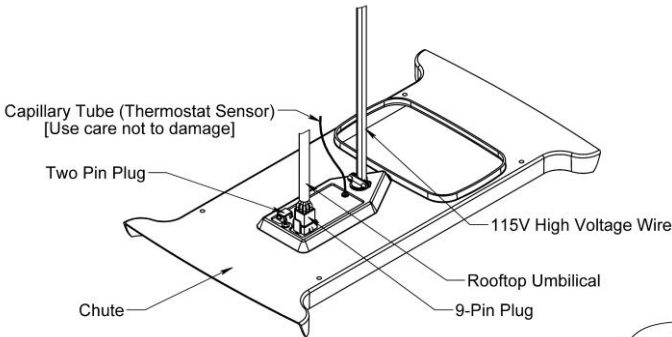

FIGURE 7
- C. Raise the ceiling assembly chute and insert the supply wiring through the cable clamp and into the wiring box so that 4-6" of supply conductor is inside the box. Secure the cable clamp over the supply wire sheath so that no movement is possible (See Figure 7).
- F. Plug the heat pump electrical conduit into the 9-position receptacle as shown in Figure 7.
installed, remove the cover from the 2-position receptacle and plug the heater cord into the receptacle as shown in Figure 7.